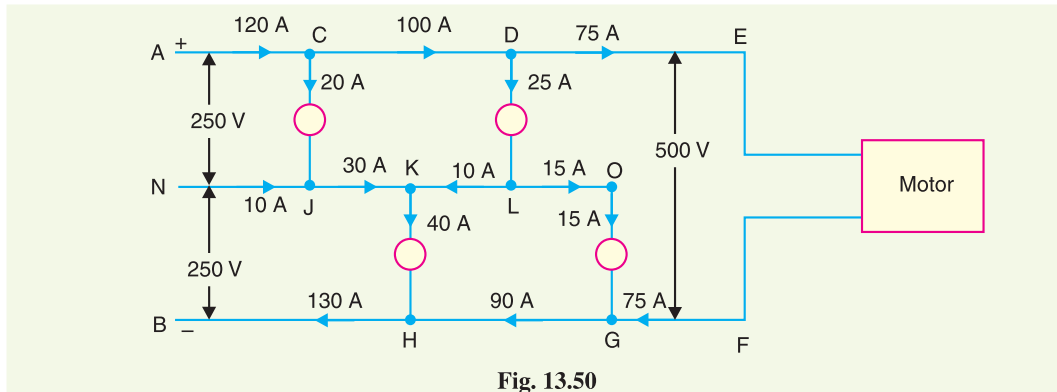

Fig. 13.50
Fig. 13.50 shows a 3-wire 500/250 V d.c. distributor. Typical values of loads have been assumed to make the treatment more illustrative. The motor requiring 500 V is connected across the outers and takes a current of 75 A. Other loads requiring lower voltage of 250 V are connected on both sides of the neutral.
Applying Kirchhoff's current law, it is clear that a current of 120 A enters the positive outer while 130 A comes out of the negative outer. Therefore,  $130 - 120 = 10$  A must flow *in* the neutral at point *N*. Once the magnitude and direction of current in the section *NJ* is known, the directions and magnitudes of currents in the other sections of the neutral can be easily determined. For instance, the currents meeting at point *K* must add up to 40 A to supply the load *KH*. As seen in Fig. 13.50, 20 A of *CJ* and 10 A of *NJ* flow towards *K*, the remaining 10 A coming from point *L*. The current of 25 A of load *DL* is divided into two parts; 10 A flowing along section *LK* and the remaining 15 A along the section *LO* to supply the load *OG*.
**Load-point voltages.** Knowing the currents in the various sections of the outers and neutral, the voltage at any load point can be determined provided resistances are known. As an illustration, let us calculate the voltage across load *CJ* of Fig. 13.50. Applying Kirchhoff's voltage law to the loop *ACJNA*, we have,